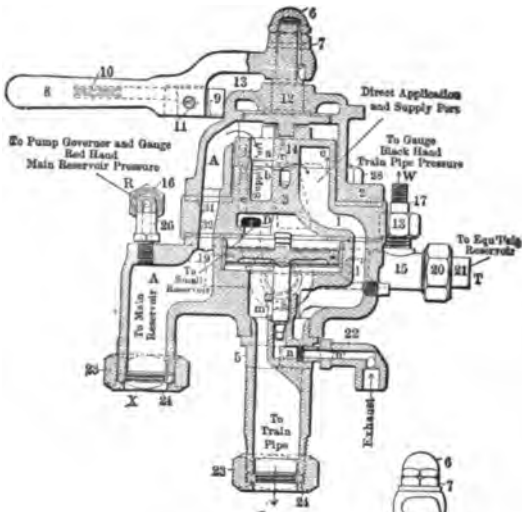
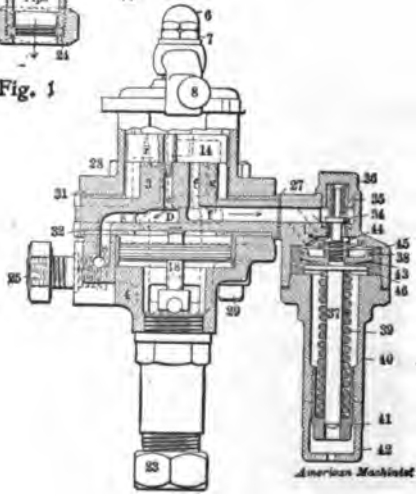

Fig. 1
Fig. 3
To explain this it is necessary to use two sectional views of the pump, as shown in plate 15. In Fig. 1 the pipe connection 93 shows by dotted lines how the steam from the boiler is carried through a passage in the back of the pump to the main-valve chamber.
The main valve is composed of two pistons of unequal diameters, fastened to a suitable rod (76), and on this rod there are two shoulders between which a common D slide valve (83) is held. Fig. 3 represents the bushing in which the main valve and slide valve works.
The slide-valve seat has three openings: the one on the left, in Fig. 1, leads to and from the underside of the main piston; the one on the right leads to and from the top side of the main piston, and the one in the middle leads to the main exhaust, 92. Consequently when steam enters the main-valve chamber the piston 77, having the largest area, is forced to the extreme right, as in Fig. 1, against the head 84, which causes the slide valve to uncover a port
in the seat so that the steam can pass from the main-valve chamber down through a passage in the side of the cylinder to the underside of the main piston, which forces it up, and the reversing plate strikes the shoulder, *j*, on the reversing-valve stem, which drives the reversing valve up and allows the steam in the reversing-valve chamber to pass through the lower horizontal port in the main-valve bushing (see Fig. 3) into the chamber between the head 84 and piston 77. As this balances the pressure on both sides of the large piston 77, the small piston 79 now pulls the slide valve to the opposite end of the chamber, which uncovers the supply port to the top of the main piston and allows the steam to force it down, and at the same time the steam from the underside is being exhausted by way of the cavity in the slide valve, which now has the lower supply port and the main exhaust connected.
As the main piston is now making its down-stroke the reversing plate (69) engages the button on the end of the reversing-valve stem and draws the reversing valve down to the position shown in Fig. 2, which connects the second horizontal port in the bushing with the port which in Fig. 3 appears to be vertical and having a short extension to the right, and as this port is always open to the main exhaust, the steam between piston 77 and the head 84 is exhausted, which allows the steam in the main-valve chamber to again force piston 77 to the position shown in Fig. 1, which places the slide valve in position to allow the steam to exhaust from the top of the main piston, and at the same time connects the main-valve chamber with the underside of the main piston, causing it to be forced up, as before.
The drain cock (105) must be handled in the same way as the one on the eight-inch pump, but in addition to this one there is one in the main exhaust (not shown in Fig. 1), and it also must be opened when starting the pump.
- 22. Body gasket. Fig. 3 shows rotary seat and preliminary exhaust port *h*, and equalizing port *g*, both lead into cavity *D*.
The D-8 brake valve uses the pump governor to control the trainpipe pressure of seventy pounds, and the connection is made at V (plate 17); the "excess" is controlled by what is known as the excess pressure valve (19, Fig. 3, of plate 17).
The parts of the F-6 brake valve are as follows: the handle, which controls the rotary, is marked 8, in Fig. 1; the lug (9) is forced out by a spring (10) so that the handle may be stopped in any desired position, and when placing the handle in any of the positions be sure that the bolt in the handle is right up against the lug on the brake valve, for the reason that the rotary valve is moved in exact accord with the handle. If the bolt or lug is worn the movement of the rotary will be correspondingly changed out of its proper alignment; 12 is the stem to one end of which the handle is fastened by nuts 6 and 7, and the other end is dove-tailed or keyed into the top of the rotary, so that whatever way the handle is turned the rotary has to turn with it; 13 is a small leather gasket for the purpose of preventing any air from leaking out around the stem, as main reservoir pressure is always on top of the rotary and under the shoulder of stem 12, forcing it up against the casing. This gasket
As cavity D above the discharge valve is very small, it is necessary to have a greater volume of air to control it than the cavity alone will contain, and this greater volume is supplied by a little drum, or equalizing reservoir, which holds about 500 cubic inches of air, and is located, usually, under the footboard of the cab. It is connected to the brake valve at T (Fig. 1), and from T to cavity D there is a connecting passage, as shown by *s* in Figs. 2 and 3, and as the little drum is always charged equally with cavity D, whenever the pressure in cavity D is reduced it is also reduced in the little drum. This greater volume is needed above the discharge valve to compensate for the volume in the trainpipe.
Nos. 34 to 46 in Fig. 3 of plate 19 all refer to the old style feed valve attachment as used on the F-6 brake valve. The essential parts are the supply valve (34), valve spring (35), diaphragm piston (37), regulating spring (39), regulating nut (41).
When the rotary is in running position the operation of the feed valve is as follows: the regulating spring being set at seventy pounds tension, it forces the piston up against the stem of the supply valve and raises it off its seat, causing the main reservoir pressure to flow from the top of the rotary down through port *j* in the rotary (Fig. 4 plate 20), and through port *f* in the rotary seat (Fig. 3, plate 19), through a passage (*f*), and under the supply valve to the top of the diaphragm piston, then through a port (shown by
dotted lines, and marked *i*, Fig. 2, plate 20), which leads off the top of the piston into the trainpipe by way of the main supply port, as shown by dotted lines in Fig. 2. As the rotary is now in position so that the large cavity (*c*), as shown in Fig. 4, plate 20, connects the main supply port with the equalizing port *g* (which passes through the rotary seat into cavity D), the air that is passing from the top of the rotary through the feed valve into the trainpipe, is also filling cavity D, and the little drum, by way of ports *g* and *s*, as shown in Fig. 3, plate 19 (while plate 19 shows full release position, still ports *s* and *g* are plainly shown, and if the handle was moved to running position the port through the rotary that registers with port *e* in Fig. 3, would be in register with port *f*; port *g* is indicated by dotted lines).
The black hand of the gauge is piped to the little drum at W (Fig. 1, plate 19), as stud 17 is tapped into pipe 15 which connects the little drum with cavity D by way of port s.
Fig. 3 shows how the new slide valve feed valve is attached.
By plate 21, Fig. 3, you will see that there is a slide valve (55) attached to a piston (54), and this piston is forced forward by a spring (58).